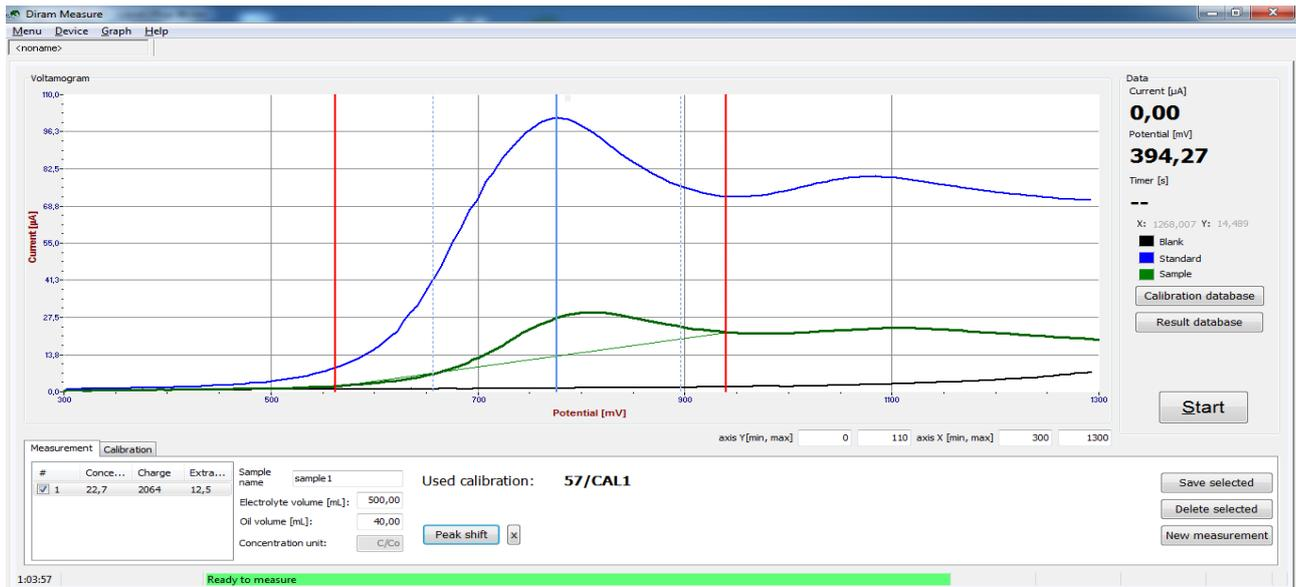

Figure 10: The results for the electrolyte - **Blank** (black curve), **Standard** (blue curve) and **Sample** (green curve).
20. Wipe the electrode. Insert the electrode into **Sample**. Measure **Sample** by pressing *Start* button. The result is the green curve (**Fig. 10**).